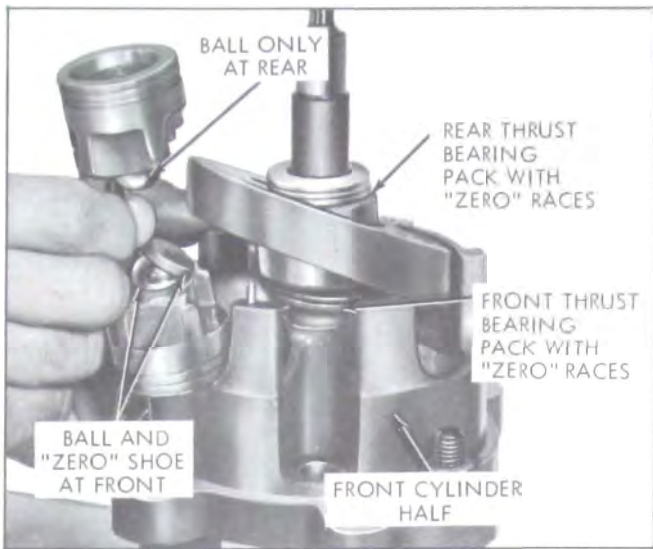

Figure 11-70—Installing Piston Assembly in Cylinder for Gauging
9. Rotate shaft and swash plate until high point of swash plate is over piston cylinder bore, which had been identified as No. 1. Insert front end of No. 1 piston (notched end) in cylinder bore (toward the front of compressor) and at the same time, place front ball and shoe and rear ball only over swash plate. See Figure 11-70.